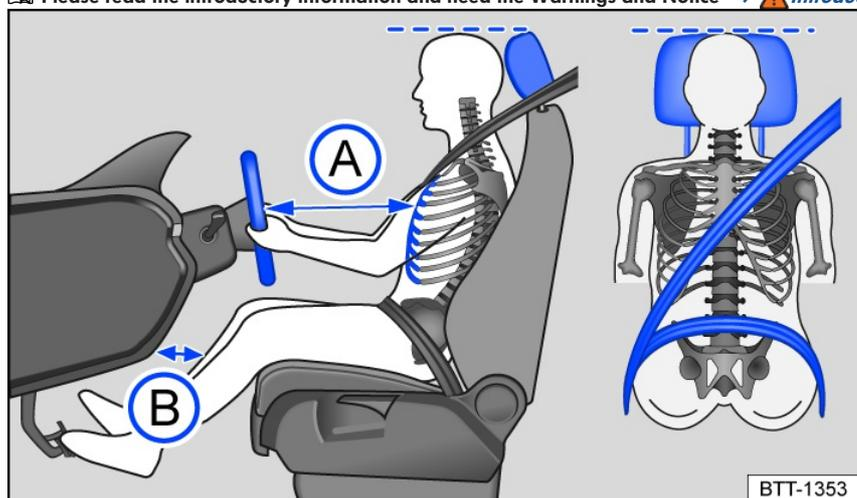

Fig. 22 General example: correct distance between the driver and the steering wheel, correct safety belt routing and correct head restraint adjustment.
- Adjust the head restraint so that the upper edge of the head restraint is in line with the upper portion of the head as much as possible, but not lower than eye level. Position the back of the head as close as possible to the head restraint *fig. 22*.
- Adjust the steering wheel so that the distance between the steering wheel and your chest is at least 25 cm (around 10 inches) *fig. 22* and you can hold the steering wheel firmly at the sides with both hands and your elbows slightly bent.
- Adjust the forward/back position of the driver seat so that you can press the pedals while your legs are slightly bent and there is at least 10 cm (around 4 inches) of space between the instrument panel and your knees *fig. 22*.